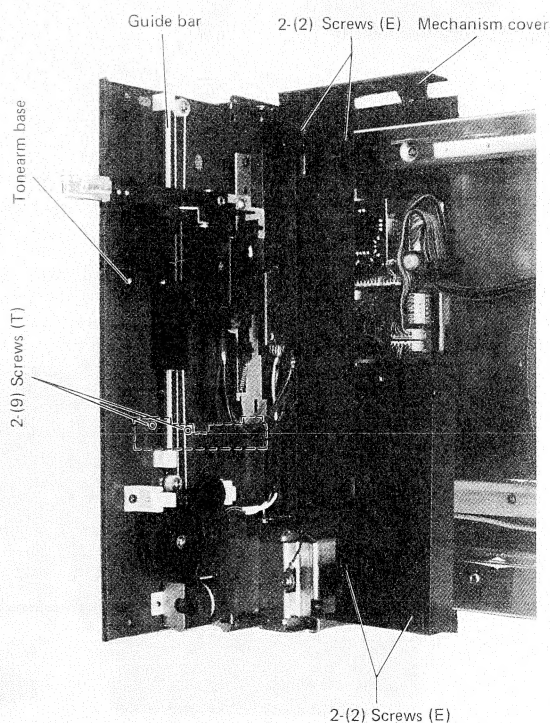

Fig. 3
- (2) Pulling front edge of the tonearm chassis upward by hand, remove 4 pcs. of screws (E) from top of mechanism cover. (See fig. 3)
- 1. Remove 2 pcs. of screws (T) (See fig. 3)